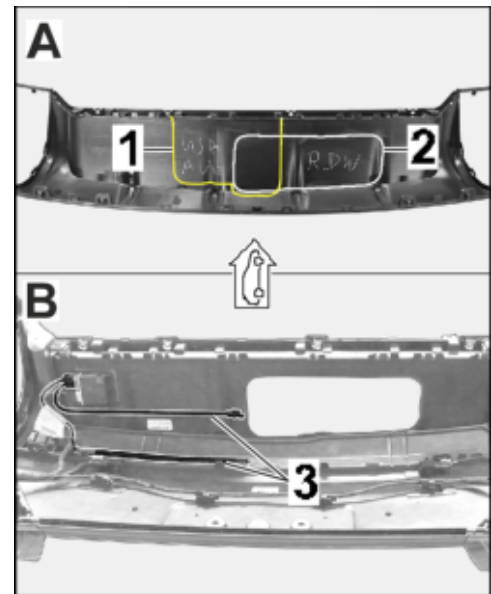

Figure 5
1.8.2 Mark the cut-out for the ball hitch (removable – USA) at the impression on the inside of the rear apron (⇒ *Figure 5 -A-*).
1.8.3 Carefully make the cut-out along the marking (example for 1D3: ⇒ *Figure 5 -B-*, 1D6 accordingly).